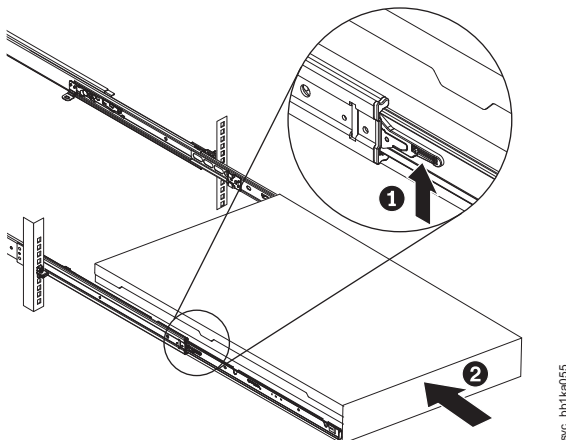

Figure 283. Raising the locking levers of the slide rails of the rack
11. Lift the locking levers (**1** in Figure 283) on the slide rails and push the server **2** all the way into the rack until it clicks into place.